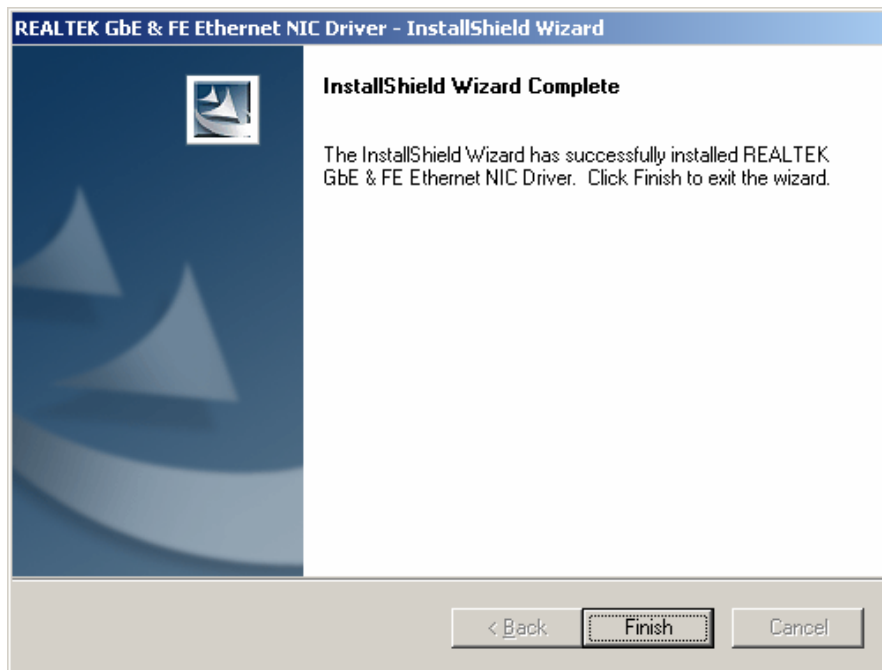

Figure 6-19: Realtek LAN Driver Installation Complete
Step 5: After the driver installation process is complete, a confirmation screen appears (Figure 6-19).